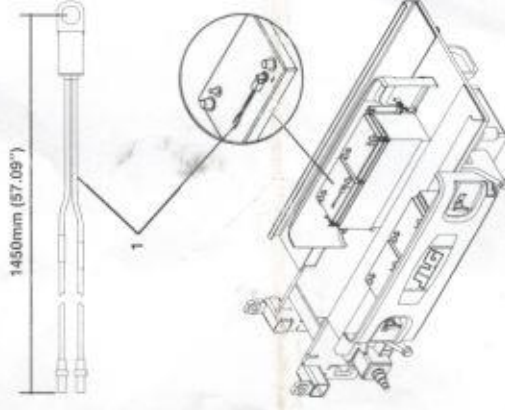

Figure 1: Temperature Sensor
1. Install item #1 to the negative (-) terminal of the left side rear battery as shown on Figure 1.